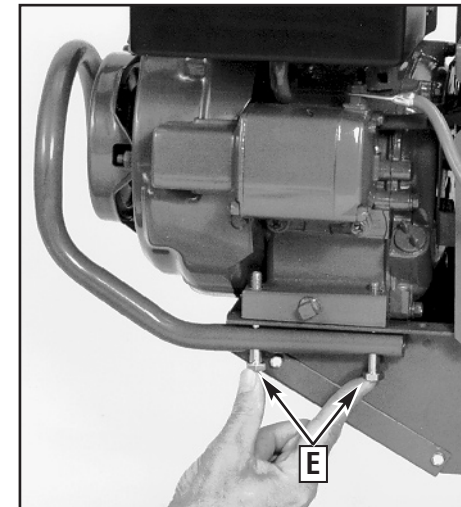

Figure 7: Install screws (E), lock washers and nuts on right side. Tighten securely. Then tighten all remaining screws.
6. On the left side of the engine, insert two new 2-1/2-in. long screws (E, Fig. 7) up through the holes in the bumper leg, the engine support bracket and the engine base. Add spring lock washers and hex nuts and tighten securely.